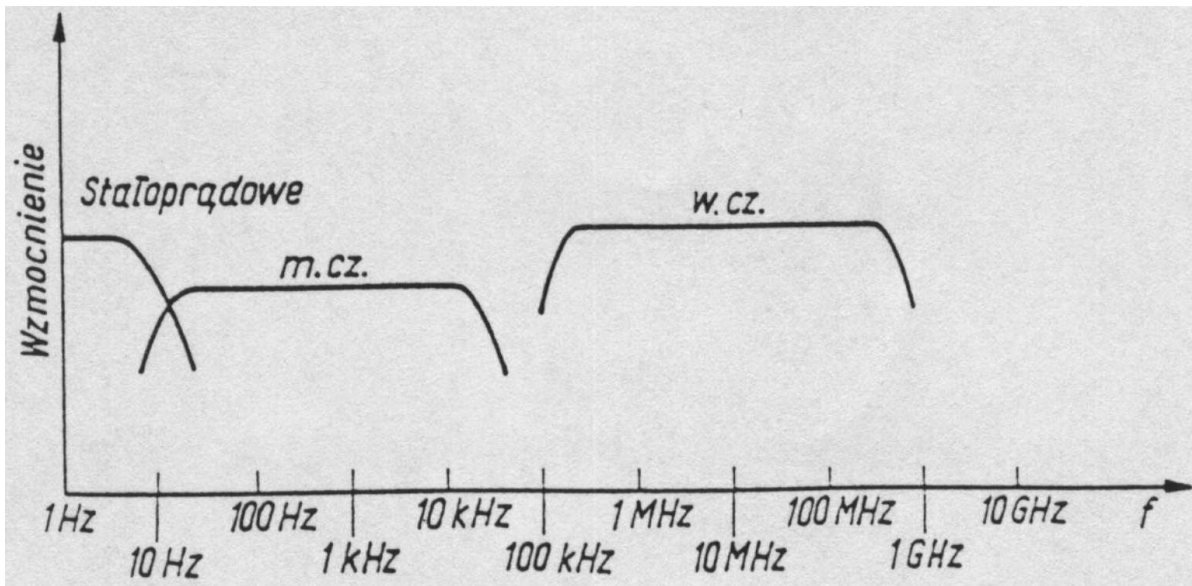

Fig. 8.5.2. Classification of amplifiers due to the range of amplified frequencies
Assuming the division of the frequency range of the amplified signals as a criterion, there are distinguished between DC amplifiers (amplify direct current and signals from zero frequency) to a specific upper limb frequency, low frequency amplifiers (LF) and high frequency amplifiers (HF) – fig. 8.5.2. In electronics, an important feature of amplifiers is their ability to amplify only signals with frequencies lying in a narrow range, generally around a certain central frequency (the ratio of the upper frequency  $f_g$  to the lower  $f_d$  is close to unity). The amplification of these amplifiers is rapidly decreasing both for frequencies smaller and larger than the central frequency  $f_o$ . These amplifiers are called selective (often resonant). Another type of amplifiers enables amplified signals in the maximum wide frequency range (high value of the upper limit  $f_g$  to lower  $f_d$  in practice above 10). Such amplifiers are called broadband amplifiers.